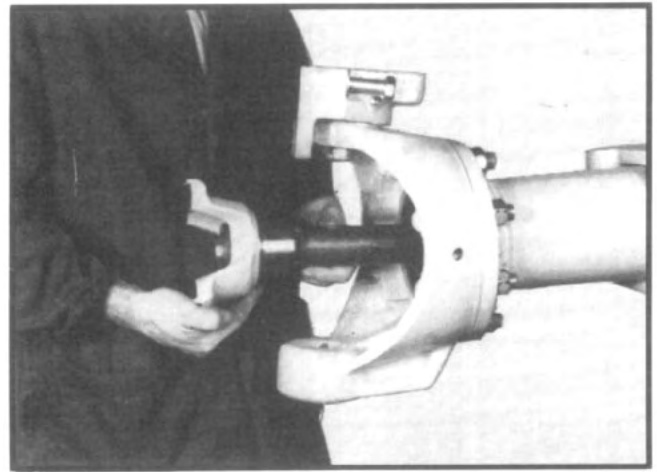

Fig. 24
1. Perform only step E Page 11, then pull the axle shaft and universal joint from the axle housing. (See fig. 24.)
8. Apply lubricant to the inner drive yoke hub area. Insert the proper inner drive yoke shaft assembly through the suspension yoke. (See fig. 24, Page 12.) **CAUTION MUST BE TAKEN TO AVOID DAMAGING THE INNER DRIVE YOKE SEAL ASSEMBLY.** Rotate the inner drive yoke shaft assembly until it engages the side gears on the differential assembly, continue to slide the shaft inward until it engages the seal assembly. Care should be exercised to prevent damage to the primary seal lip and to insure the drive yoke hub is seated in the bronze bearing portion of the seal without distorting the large rubber diaphragm section of the floating seal.